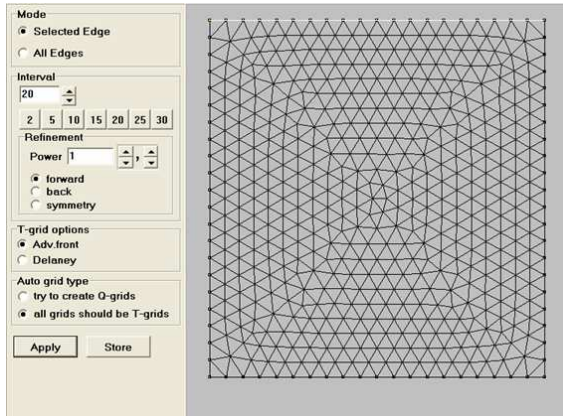

Fig. 37
- ✓ **Adv.Front.** The advancing front method builds internal cells close to equilateral triangles whose side size is equal to the boundary edge size, using no additional parameters (see Fig. 37).